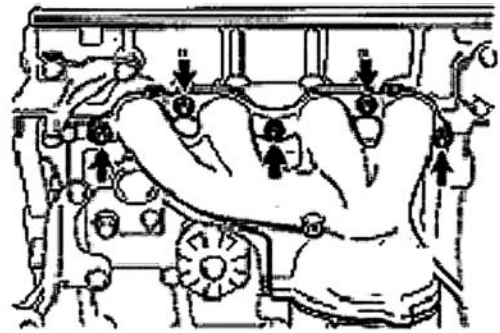

Figure 71
22. Detach exhaust manifold. See (Figure 71)